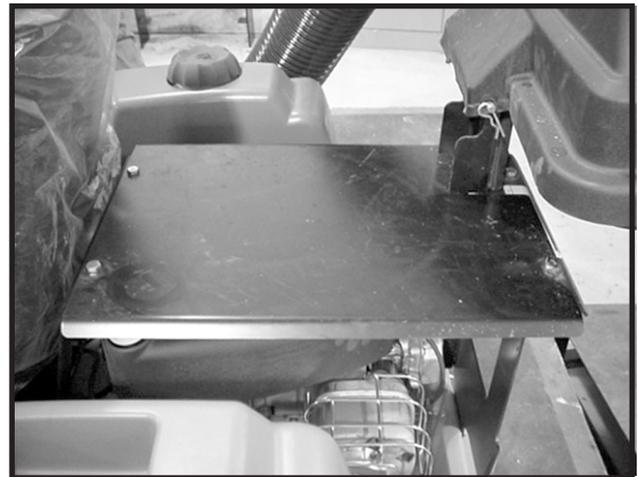

FIGURE 3A
3 INSTALLATION OF THE REAR GUARD, PLATE AND HANGER (See Figure 3A and 3B.)
2. Place the hanger over the tab on the plate. See Figure 3A.